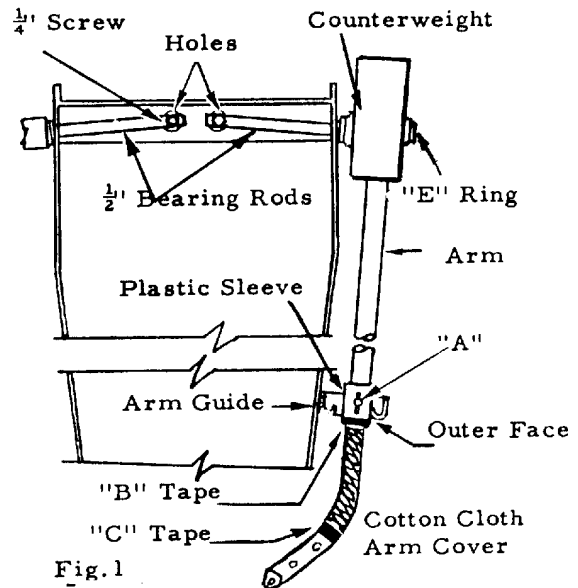

Fig. 1
PLASTIC SLEEVE POSITION AND TAPING FIG. 1
1. Position plastic sleeve on arm in center of arm guide, and align slot with hole in arm. Fasten plastic sleeve securely with #8 Tap Tight Screw at "A" (Fig. 1).
BEARING ADJUSTMENT FIG. 1